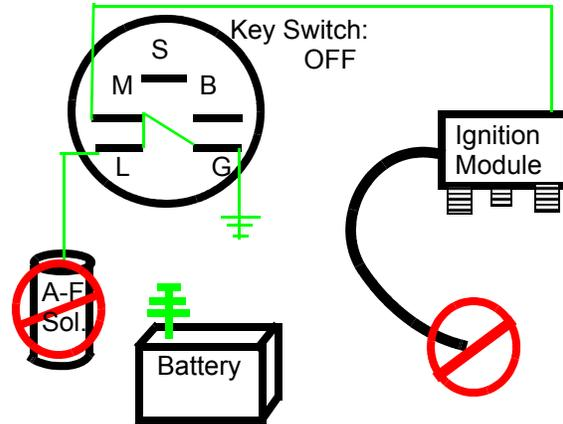

Figure 30.1
30.1. With the key in the OFF position, Terminals G, M, and L are connected within the key switch. See Figure 30.1.